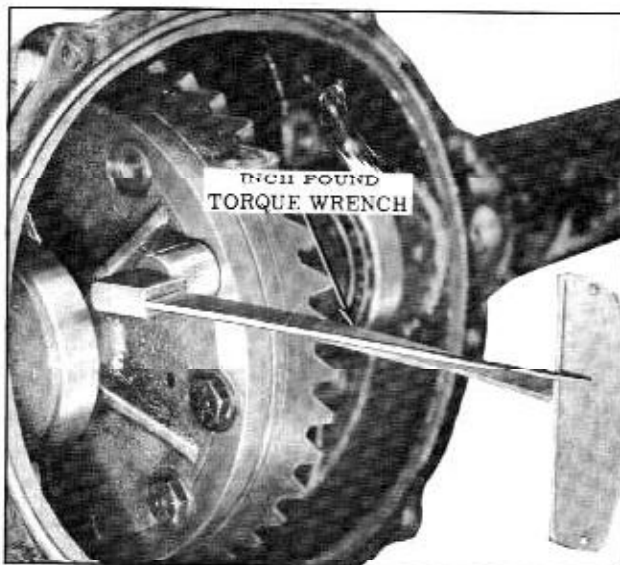

Figure 6-9 Preload Reading
5. With an in. lb. torque wrench on ring gear bolt, (Fig. 6-9), the reading should be 10-20 in. lbs. with original bearings or 20-30 in. lbs. with new bearings.